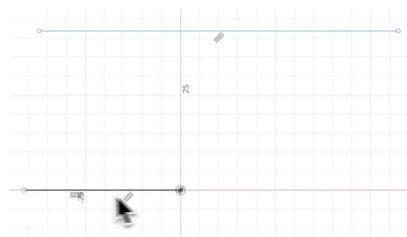

Figure 1.5
- **Coincident:** Attaches a point (e.g., line endpoint) to another point or the origin. **Note:** You'll see that once we've attached the sketch to the origin, the only thing that can still be adjusted is its length, since that dimension hasn't been defined yet. (see Figure 1.5)